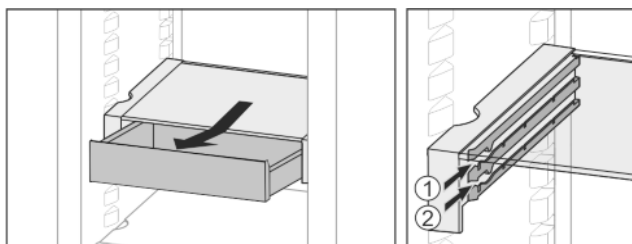

Fig. 23
- Slide in at any height Fig. 23 (1) or Fig. 23 (2).